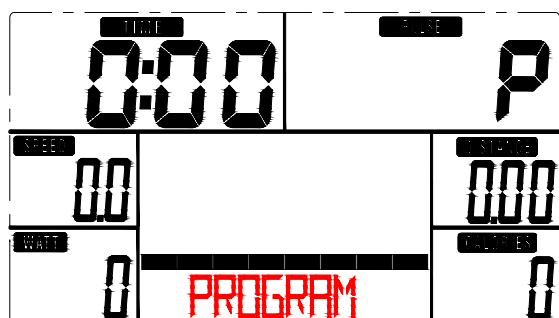

Fig 5
1. After entering into sport mode, MANUAL(MAN) on dot matrix is blinking as 1HZ. Press UP & DOWN key to select according to the sequence MANUAL→PROGRAM(Fig 5)→User Program→H.R.C. (Fig 6)→WATT. When press ENTER / MODE, then enter into this mode. If not select and directly press START key to enter into MANUAL MODE and then START.